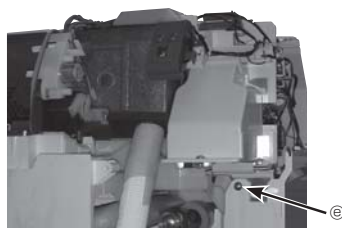

Fig. 6-7
- 9 Remove the screw of the electrical box. (Fig. 6-7)